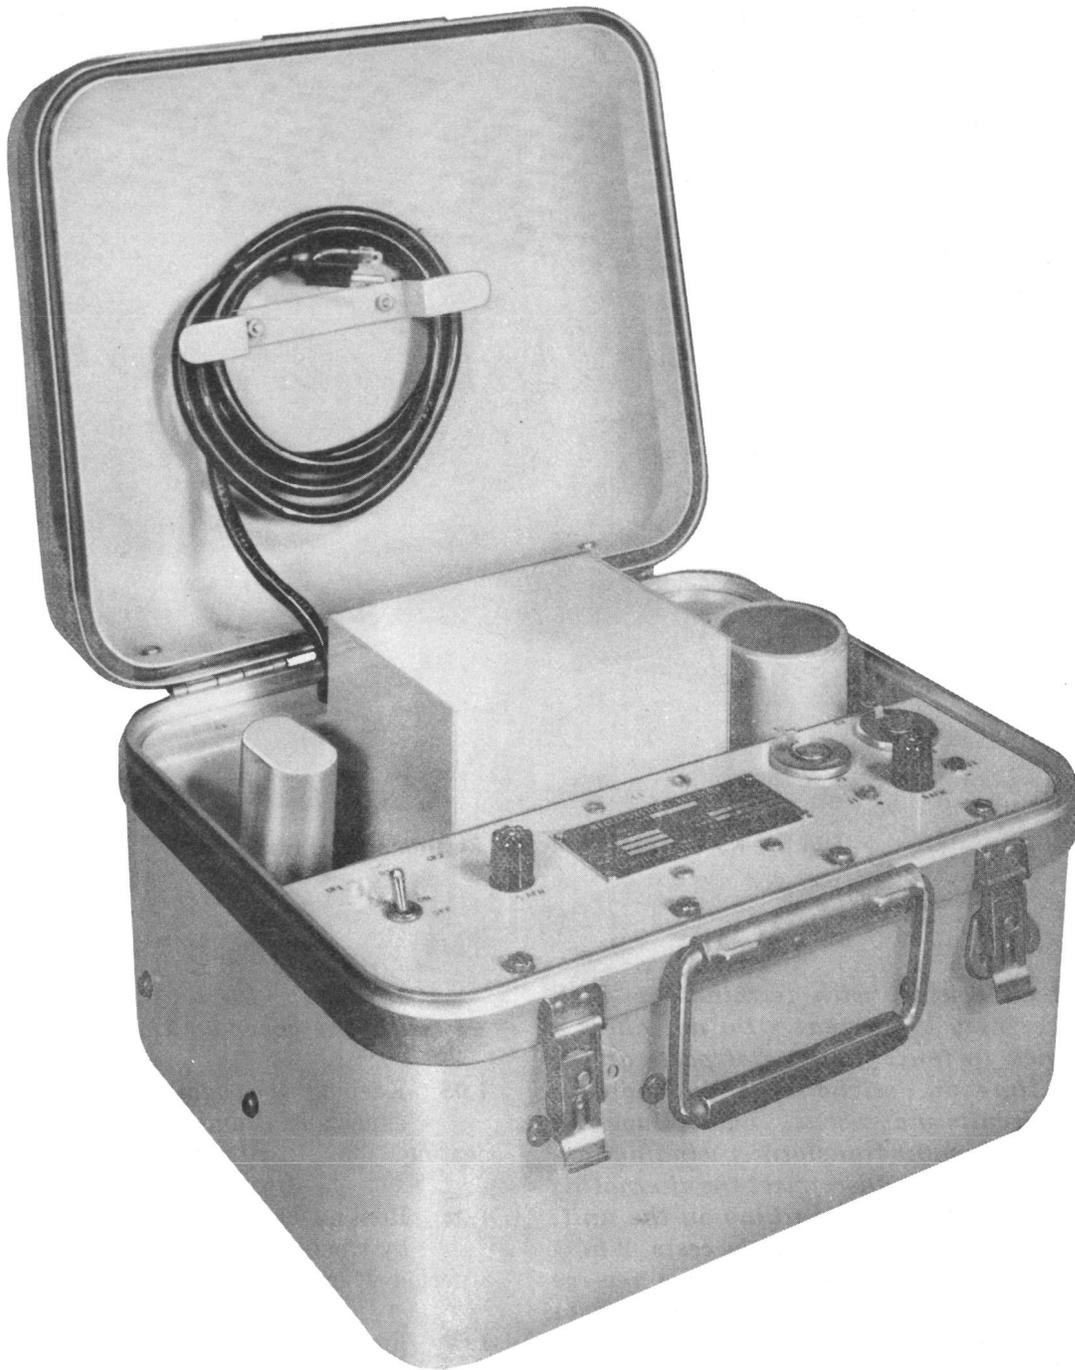

Fig. 3—KS-15894 L4 Rectifier
**1.04** The L1, L2, and L3 rectifiers are equipped with ventilated removable front covers. Inside the units, screw-type terminals are provided for ac and dc connections and for making the necessary connection adjustments. See 1.03, Note 1. The ac input fuse and pin jacks for measuring the dc output voltage are accessible on the front panels without removal of the covers. The L4 rectifier (Fig. 3) is contained in a fiber-glass carrying case with a removable cover. The 6-foot, 3-wire,
**3.04** The KS-15894 L4 rectifier operates in a manner similar to the KS-15894 L2 rectifier (see 3.02), differing only in input and output voltages and in output current (see 1.03). For physical differences, refer to 1.04 and Fig. 3.